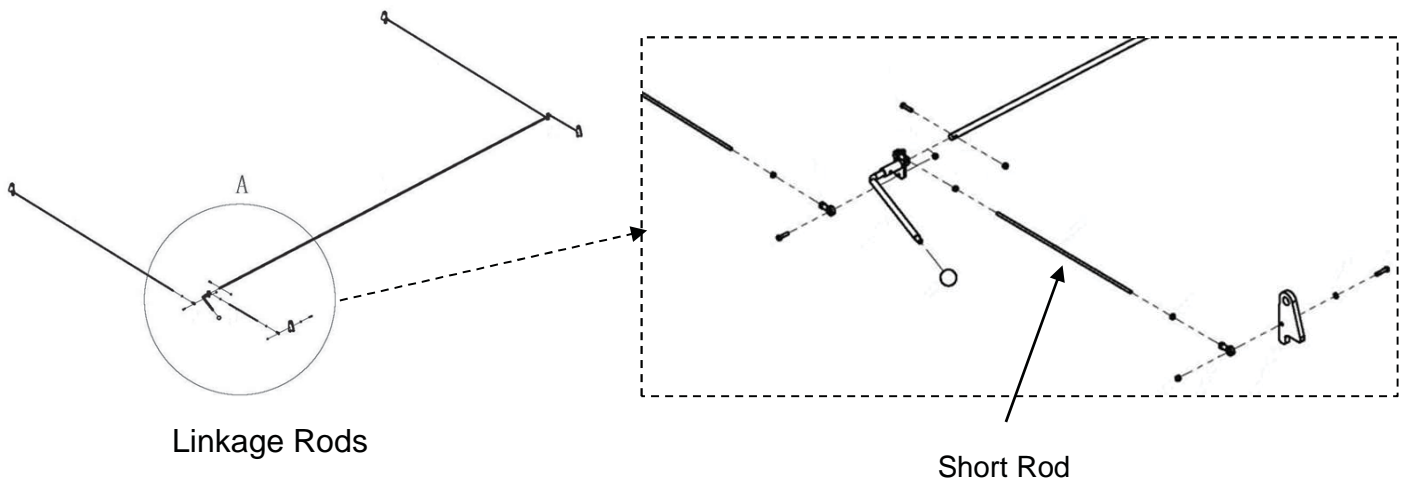

Fig. 4
9. Arrange the Crossbeams so that the Latches' Linkage Rods are facing outward and the Short Rod (#83) is closest to the Power Unit Column, as shown in (Fig.4).